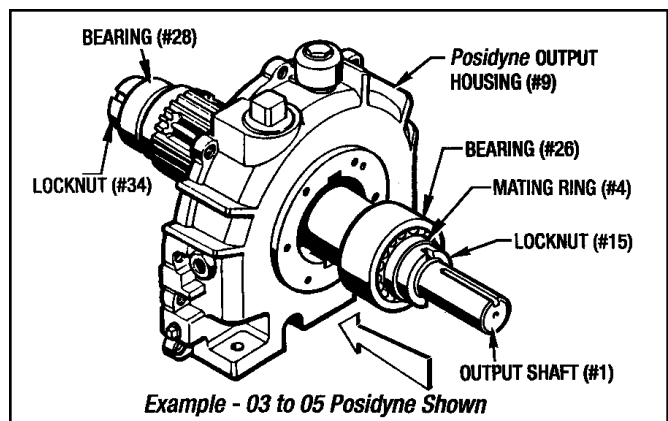

Figure 9.4 - Installing Output Shaft Sub-Assembly
1. Guide the Output Shaft Subassembly into the Output Housing (#9), as shown in Figure 9.4.